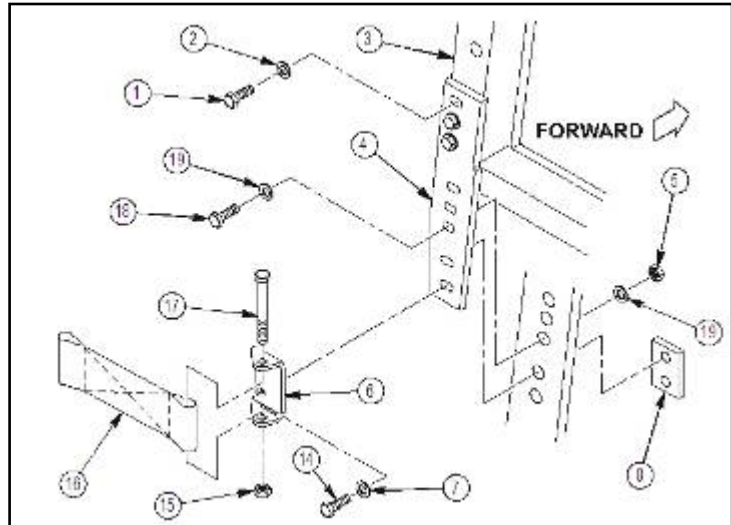

Figure 23a.
1. Apply 8030-01-025-1692 sealing compound to threads of three 4397000-036 capscrews (1). Refer to figure 23a.
2. Install 6435651-01M1 left A-pillar safety strap bracket (4) on windshield frame (3) with three 4397000-036 capscrews (1) and 4397005-013 washers (2) as shown in figure 23a. Do not tighten capscrews (1) at this time.
3. Install three 4397000-034 capscrews (18), six 4397005-013 washers (19), and three 4397064-003 locknuts (5) as shown in figure 23a. Do not tighten capscrews (18) at this time.
4. Apply 8030-01-025-1692 sealing compound to threads of two 4397000-034 capscrews (14). Refer to figure 23a.
5. Install 6435652-01M1 safety strap bracket (6) on left A-pillar safety strap bracket (4) with two 4397000-034 capscrews (14), two 4397005-013 washers (7) and one existing nut plate (8) as shown in figure 23a. Tighten three capscrews (1) to 13 lb-ft (17.6 N·m), three capscrews (18) to 21 lb-ft (28.5 N·m), and two capscrews (14) to 21 lb-ft (28.5 N·m).
6. Install 4668245-000 front door check strap (16) in safety strap bracket (6) and secure with one 4397000-046 capscrew (17) and 4397064-003 locknut (15) as shown in figure 23a. Tighten locknut (15) until three or four threads of capscrew (17) are extended through locknut (15).